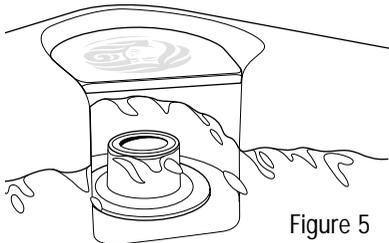

Figure 5
- Fill the hot tub to half way up the skimmer opening. **Note:** If your hot tub is Hush Pump equipped your level can be lowered to one third up the skimmer opening. This will allow for more displacement if the hot tub is subjected to use by more than the recommended amount of people for that model. See Figure 5.